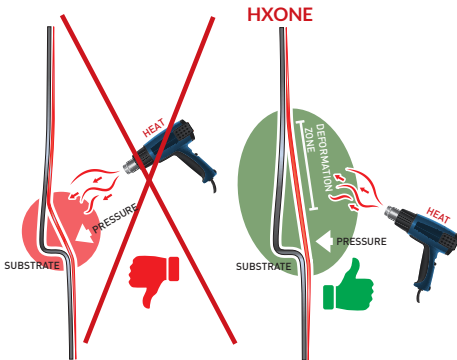

Figure 09
- ▶ Stretch the film over the substrate so that it touches the peaks only. (FIG. 09)